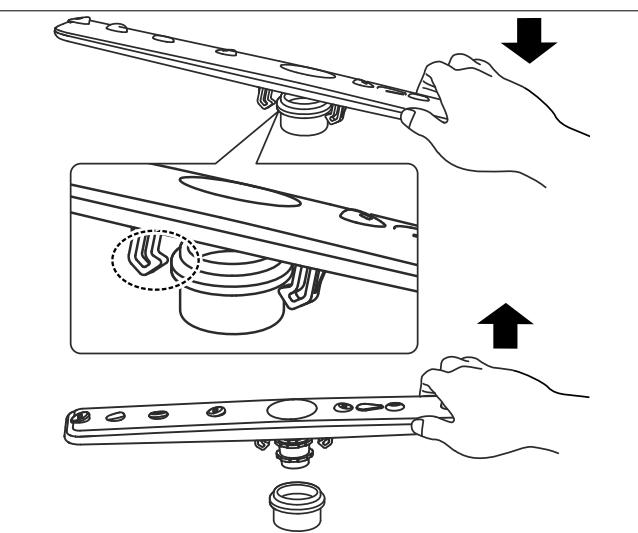

Fig. 22 – Removing the spray arm
- Remove the spray arms (1 and 2) inside the appliance (see Fig. 22) to clean them. Pull the spray arm out of the attachment.